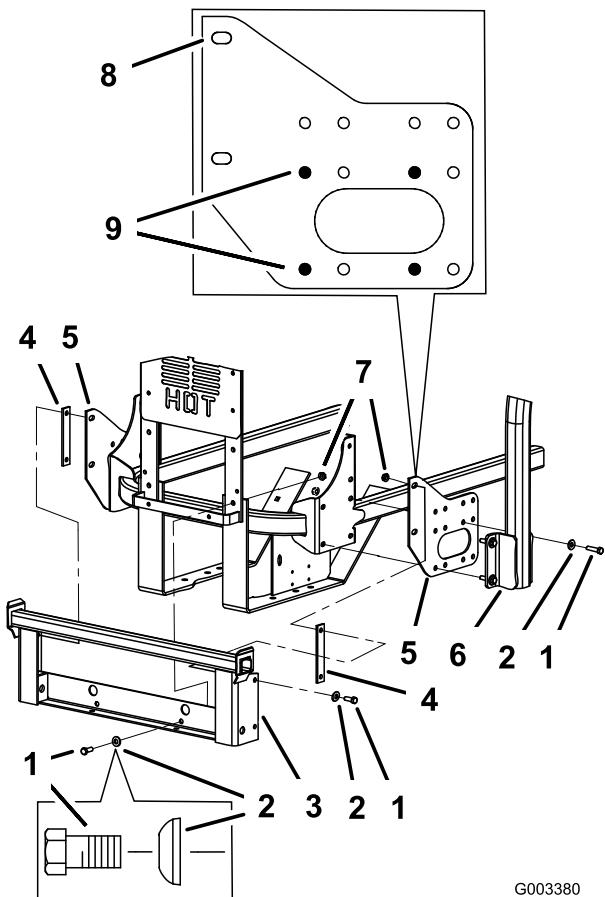
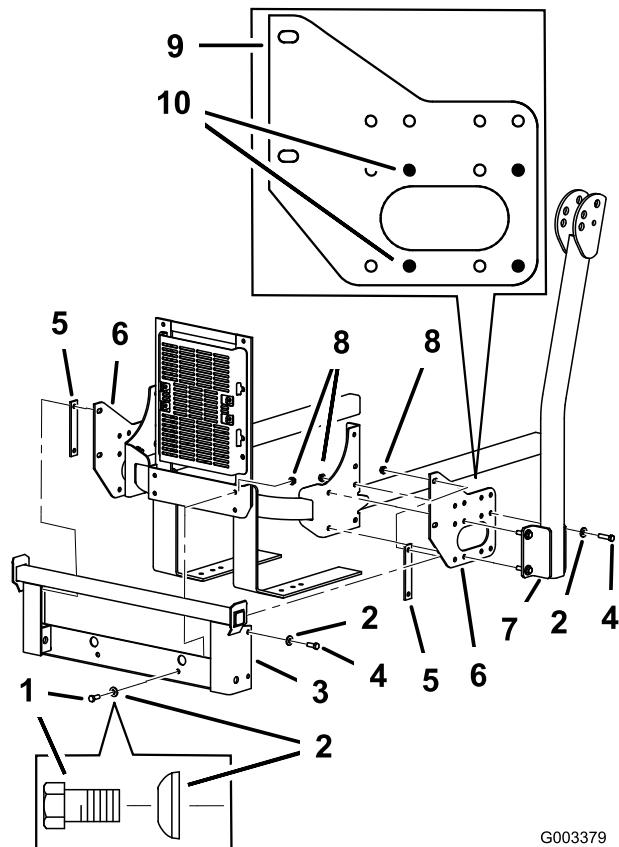
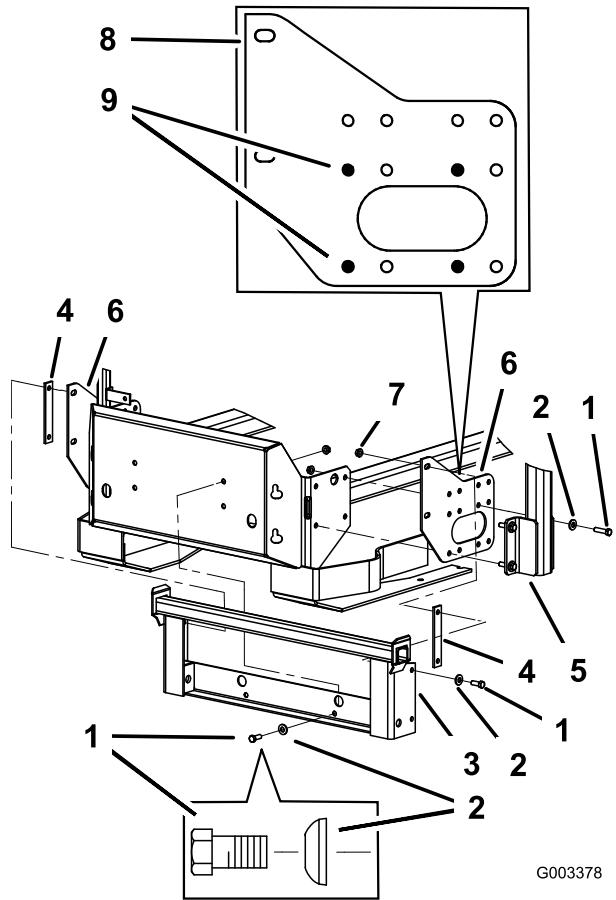

Figure 4
Figure 5
Figure 6
1. Remove the bolts, nuts, and washers holding the roll bar to one side of the machine. Discard the nuts, bolts, and washers (Figure 4, Figure 5, and Figure 6).
2. Install the bagger side plate and the roll bar section to the side of the machine using 4 bolts (3/8 x 1-1/2 inches), 4 curved washers (3/8 inch), and 4 flange nuts (3/8 inch) (Figure 4, Figure 5, and Figure 6).
3. Repeat the steps above for the opposite side (Figure 4, Figure 5, and Figure 6).
Note: Make sure the curved washers are installed as shown in Figure 4, Figure 5, and Figure 6.
4. Install the bagger mounting bracket to the left and right side bagger brackets with 4 bolts (3/8 x 1-1/2 inches), 4 curved washers (3/8 inch), and 4 flange nuts (3/8 inch) (Figure 4, Figure 5, and Figure 6).
5. Install the bagger mounting bracket to the rear frame of the machine with 2 bolts (3/8 x 1-1/2 inches) (use 2 bolts (3/8 x 1 inch) for Z593 mowers as shown in Figure 5), 2 curved
washers (3/8 inch), and 2 flange nuts (3/8 inch) (Figure 4, Figure 5, and Figure 6).
3. If the bagger mounting bracket moves side to side an 1/8 inch or more, install one or both of the spacers between the bagger mounting bracket and mounting plates (Figure 4, Figure 5, and Figure 6).